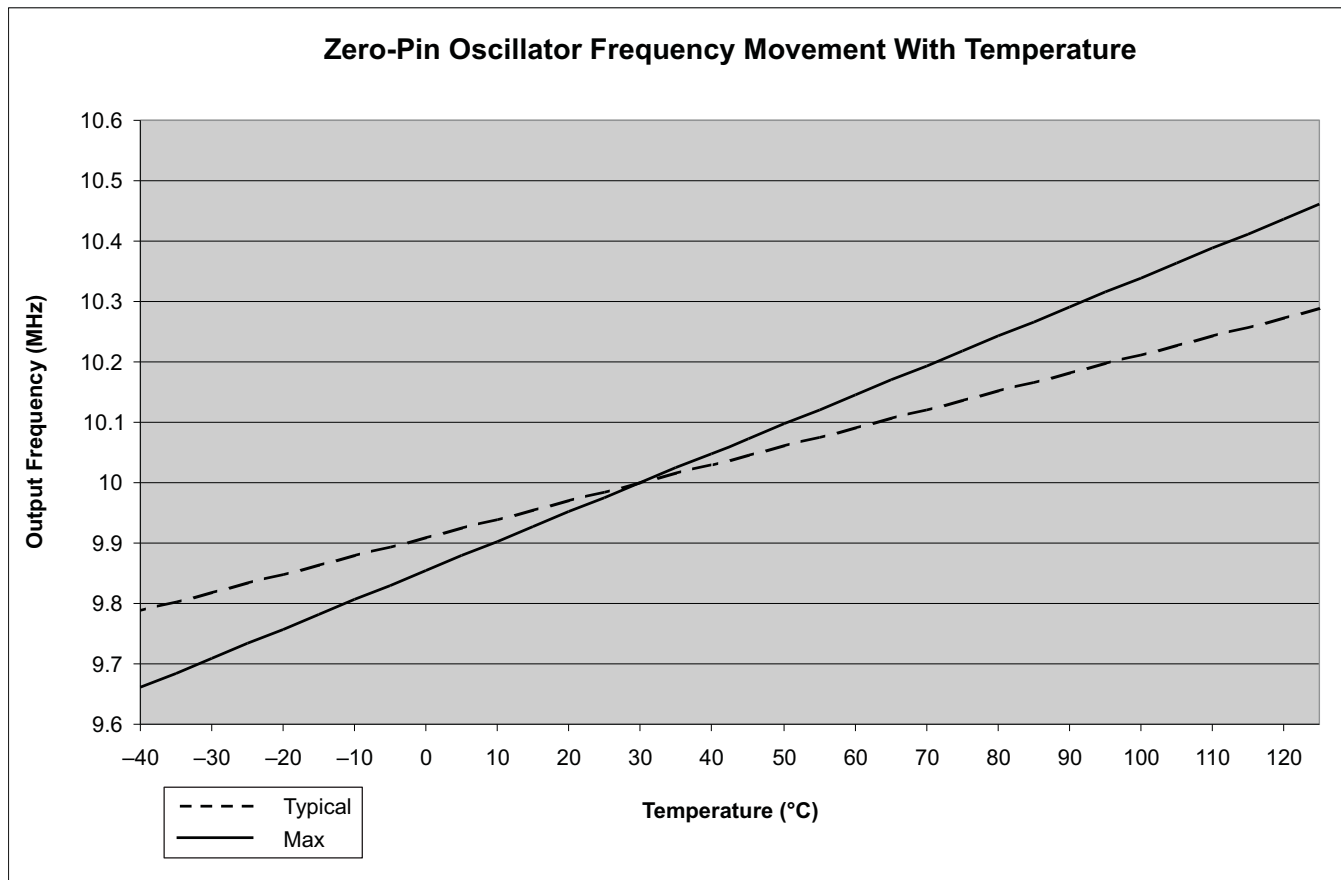

Figure 5-9. Zero-Pin Oscillator Frequency Movement With Temperature
- (1) Oscillator frequency will vary over temperature, see Figure 5-9. To compensate for oscillator temperature drift, see the Oscillator Compensation Guide and C2000Ware.
- (2) Frequency range ensured only when VREG is enabled, $\overline{\text{VREGENZ}} = \text{V}_{\text{SS}}$.
- (3) Output frequency of the internal oscillators follows the direction of both the temperature gradient and voltage (V_{DD}) gradient. For example: